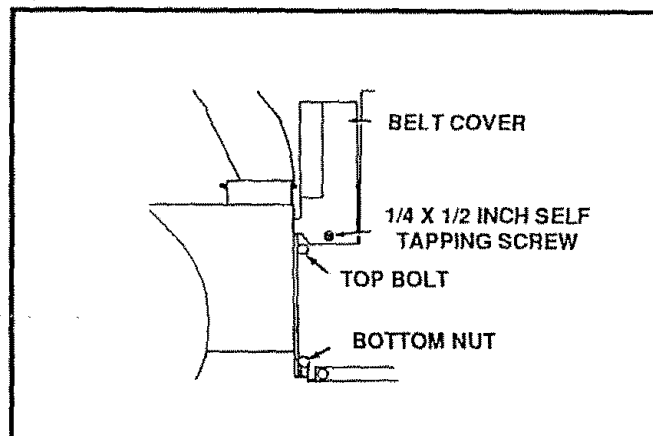

FIG. 29
- Remove the belt cover (See Fig. 29)
- Remove the top two bolts (See Fig. 29) holding the auger housing to the motor mount frame.
NOTE: It may be necessary to slightly loosen the bottom nuts (See Fig. 29) to get the auger housing and motor mount to pivot.